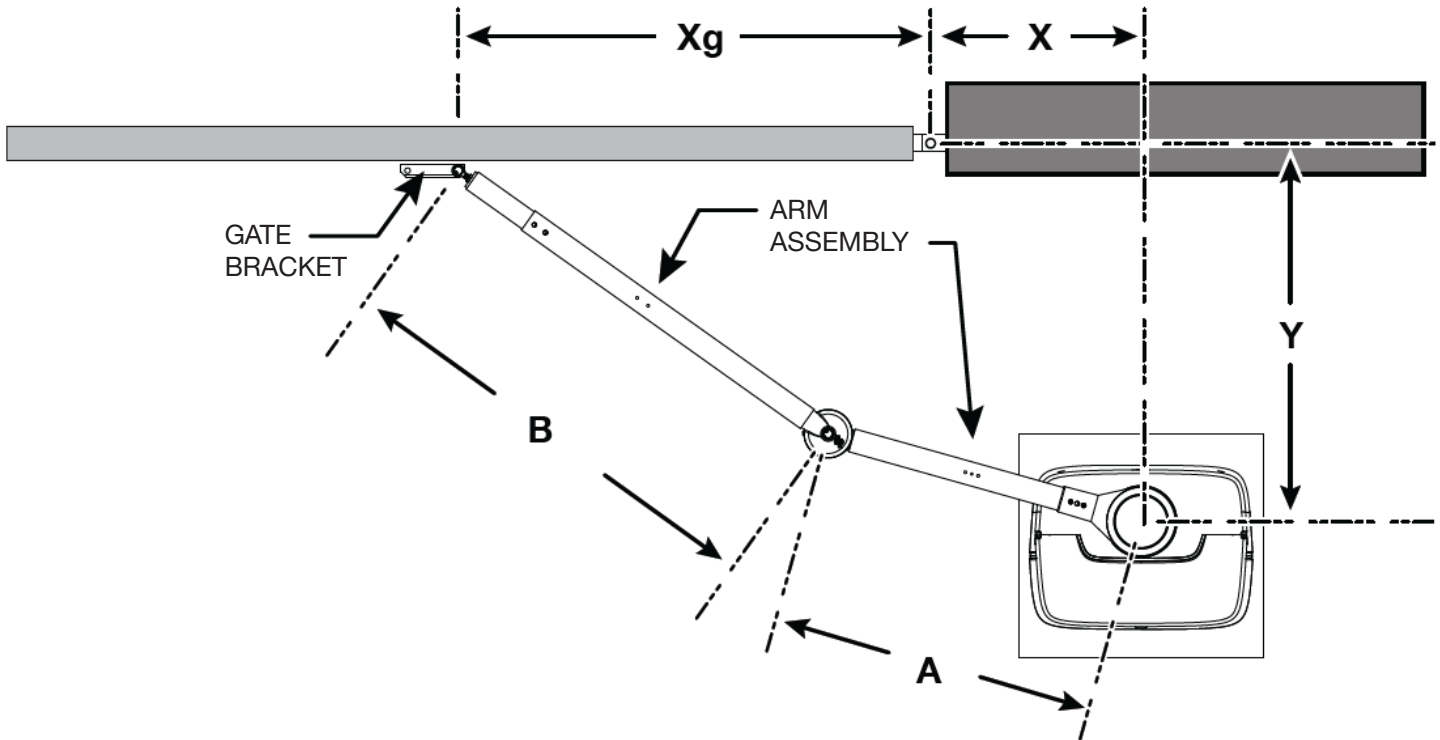
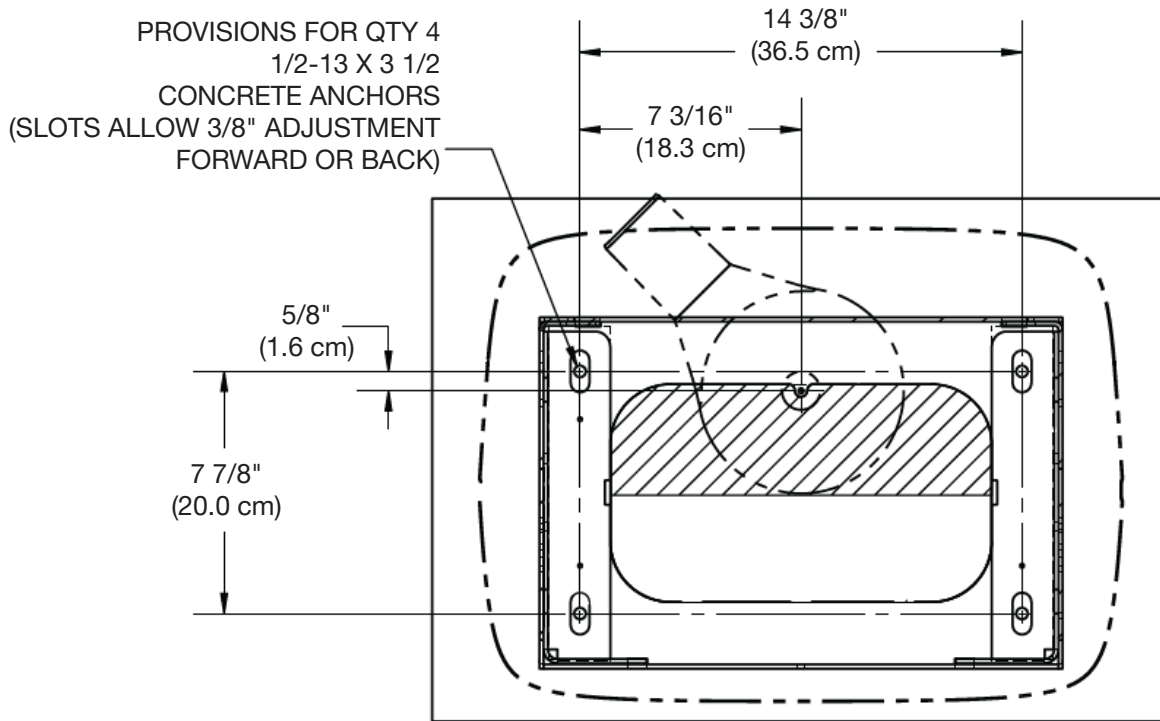

Figure 3. Operator Position Right Hand Opening
Figure 5. Anchor Hole Dimensions
2. Determine the location of the operator from the gate (Figure 3).
6. Mark Xg on the gate and mark the anchor hole positions on the concrete pad (Figure 3, Figure 5).
4. Mark the new anchor locations (Figure 5).
8. Mark Xg on the gate (Figure 3).